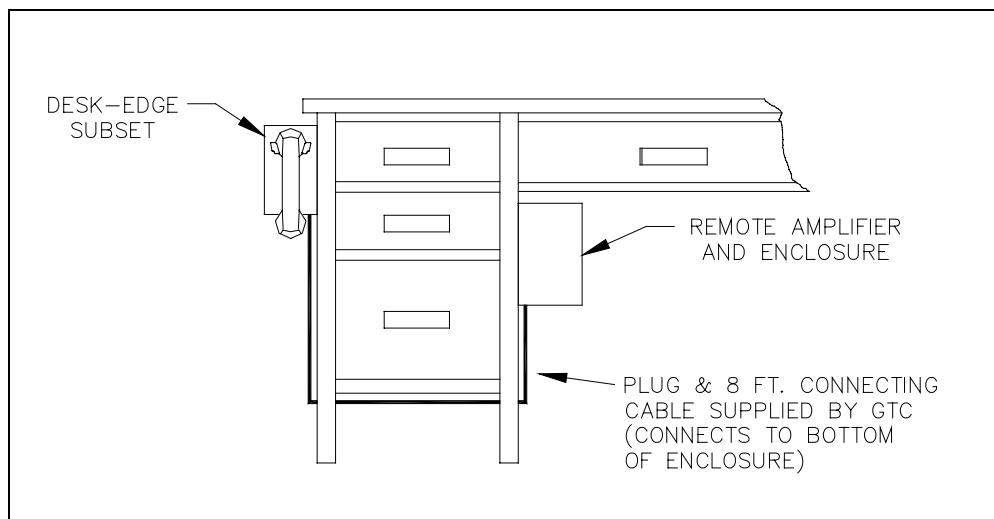

Figure 4. Typical desk-edge installation
1. Refer to Figure 4 for a typical desk-edge installation example.